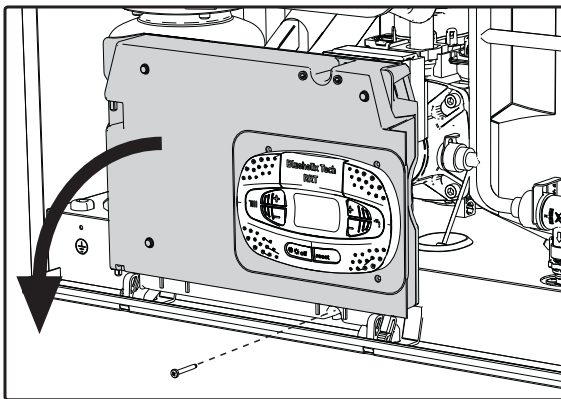
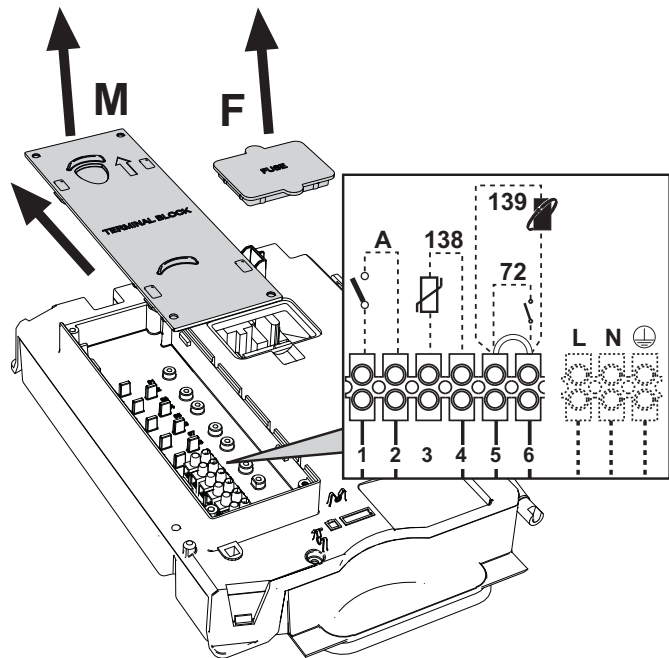

fig. 19
fig. 20
Remove the front panel (*** 'Opening the front casing and sealed chamber panel' on page 244 ***) to access the terminal block (M) and fuse (F) by proceeding as follows (fig. 19 and fig. 20). **The terminals indicated in fig. 20 must be with voltage-free contacts (not 230V).** The arrangement of the terminals for the various connections is also given in the wiring diagram in fig. 42.
ON/OFF (A fig. 20) configuration